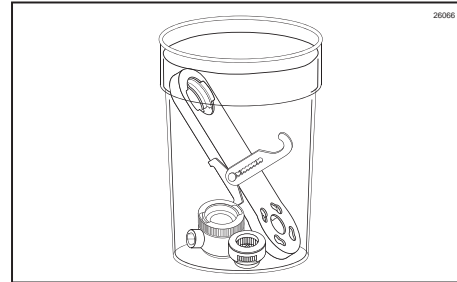

Figure 34
6. Place the Gear Box, Suspension Bracket, Gear Cartridge, and Injector Head in approved sanitizer solution and soak for at least 1 minute. (See Figure 34.)